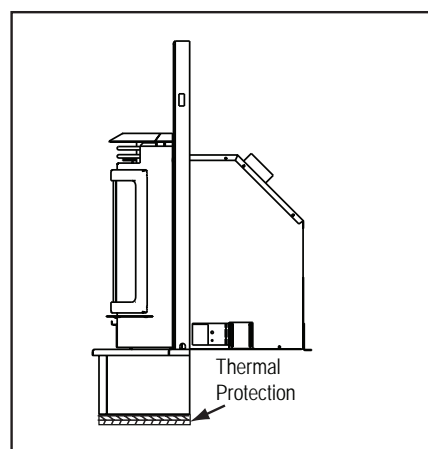

Figure 44.4
10. Thermal protection of 1-1/2 inches (38mm), "k" value of 0.49 and R value of 3.06 under the zero-clearance trim support. **Figure 44.4.**